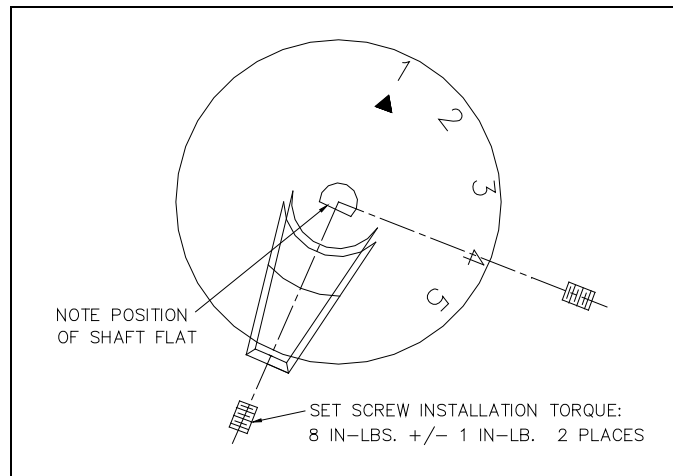

Figure 1. Knob Installation
14. To install the new knob, place the knob on the switch shaft, and secure it using the Allen set screws. Tighten the screw at the tail end of the switch first. Note that the knob tail is aligned with the flat of the switch. See Figure 1.